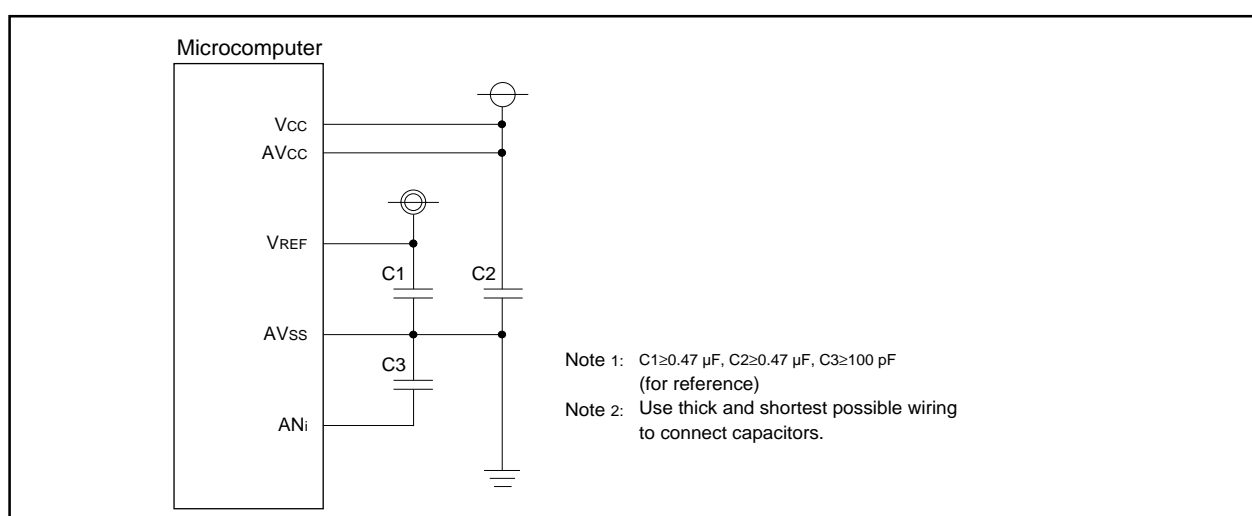

Figure 2.7.22. Use of capacitors to reduce noise
- (1) Write to each bit (except bit 6) of A-D control register 0, to each bit of A-D control register 1, and to bit 0 of A-D control register 2 when A-D conversion is stopped (before a trigger occurs). In particular, when the Vref connection bit is changed from 0 to 1, start A-D conversion after an elapse of 1 μ s or longer.
- (2) To reduce conversion error due to noise, connect a voltage to the AVcc pin and to the Vref pin from an independent source. It is recommended to connect a capacitor between the AVss pin and the AVcc pin, between the AVss pin and the Vref pin, and between the AVss pin and the analog input pin (ANi). Figure 2.7.22 shows the an example of connecting the capacitors to these pins.